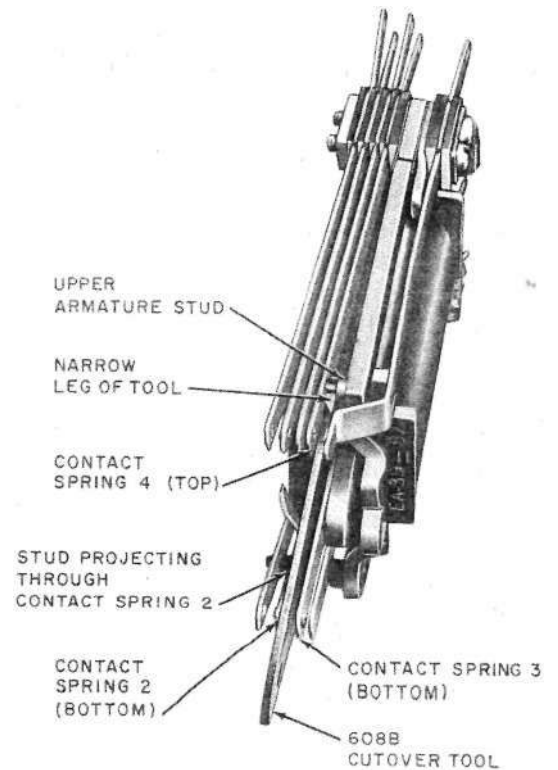

Fig. 34—Blocking EA39 Relay for Cutover Purposes
(3) *EA39 Relay:* Fig. 34—Using the 608B Cutover tool, block open the contacts controlling the circuit through the line relay. Insert the wide leg of the tool between contact spring 3 (bottom) and the stud projecting through contact spring 2, with the narrow leg of the tool to the right of contact spring 4 (top). Position the tool against the relay spoolhead with the top of